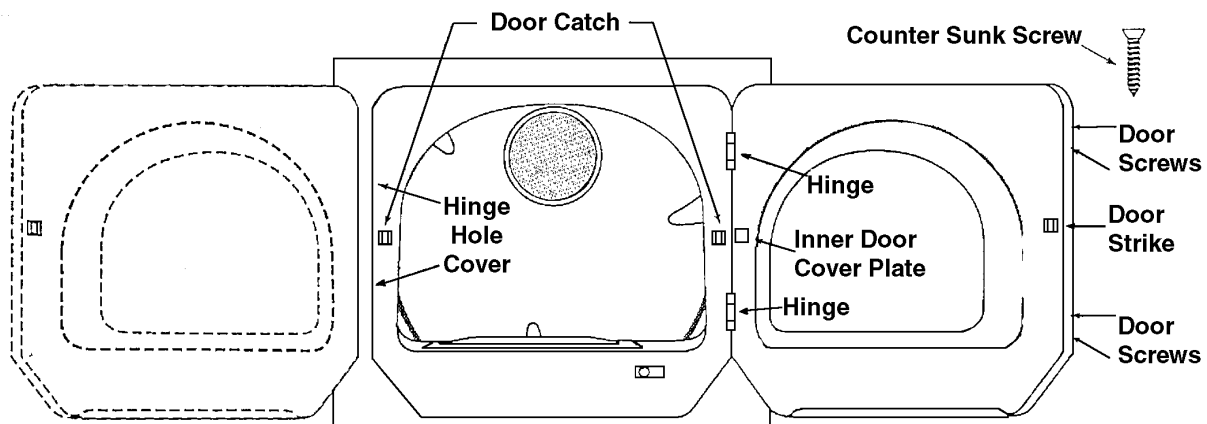

Figure17
4. Attach the door to the opposite side of the cabinet using the 2 counter sunk hinge screws. (See figure 17.)